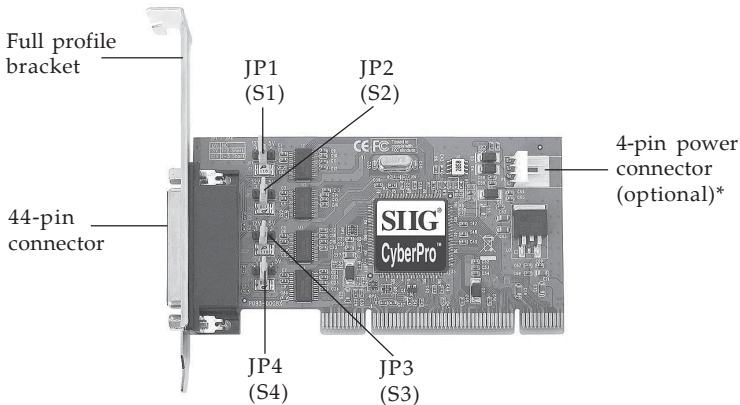

Figure 1. Layout
5. Set **JP1-JP4** jumper settings to the desired voltage only if your serial device(s) needs additional power from the serial port. However, most serial devices do not require additional power. For more information, see **Figure 1** on page 2. Skip this step if power is not required.